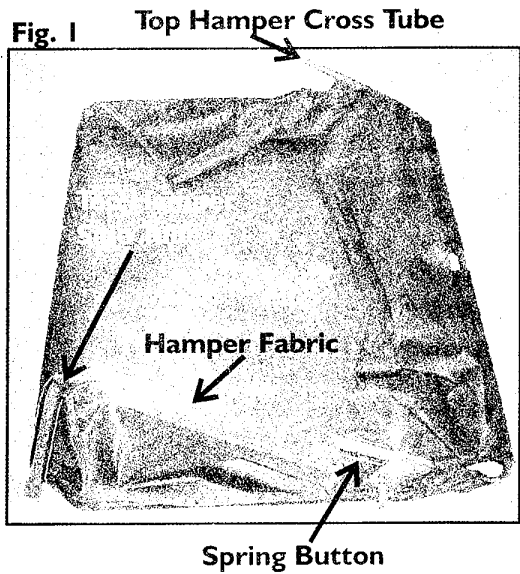

Fig. 2
Place the Bottom Hamper Cross Tube (D) into the hamper basket assembly with the holes facing up. Next, insert the Bottom Hamper Side Tubes (I) on each end of the Bottom Hamper Cross Tube. Fig. 2